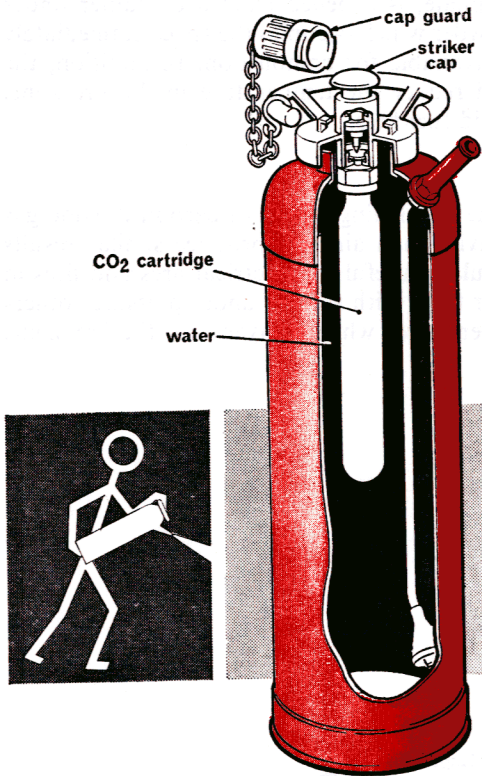

Fig. 2. Water/gas extinguisher
10. **Water/gas.** Soda acid extinguishers are now obsolescent and are being replaced as they become unserviceable by Water/gas extinguishers (Fig 2). The water in this improved type of extinguisher is forced out by the operation of a CO₂ cartridge fitted inside the cylinder. Gas is released from the cartridge when the striker cap in the headpiece is given a sharp blow. A guard is fitted to prevent accidental discharge.